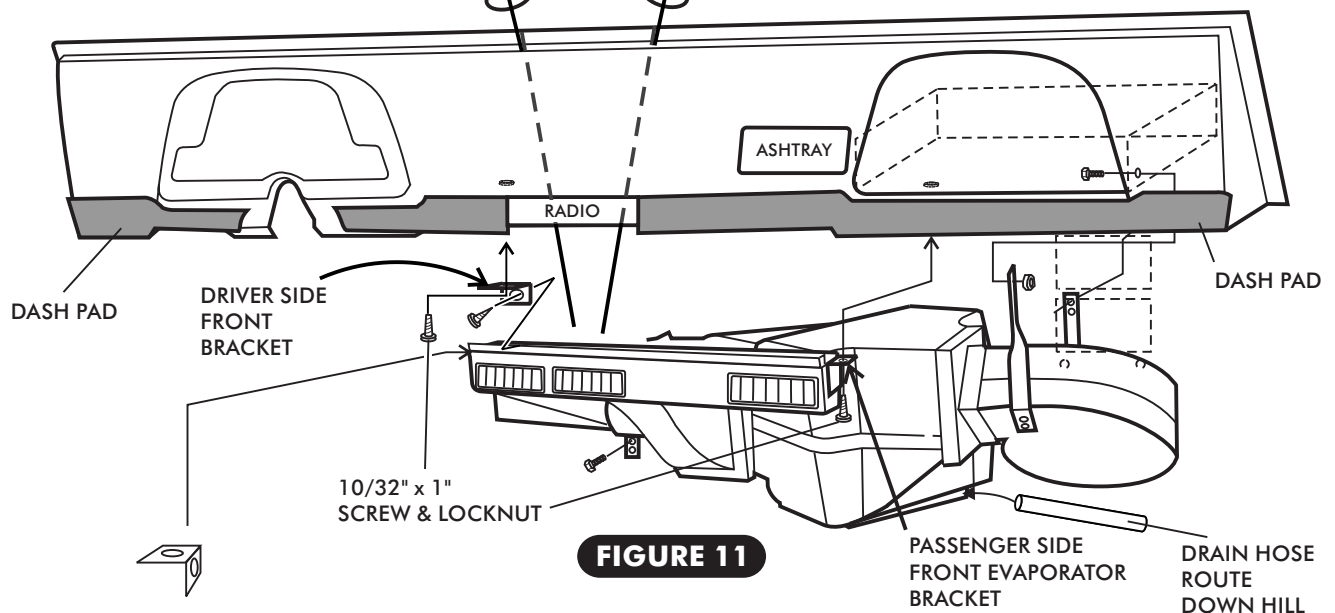

FIGURE 11
- ❑ **TRUCKS WITHOUT OEM DASH PADS** - REMOVE DASH PAD SPACER ON THE EVAPORATOR SEE FIGURE 11 & 11B, BELOW. THE NYLON SPACERS ON BOTH SIDES WILL NOT BE NEEDED.
- ❑ **TRUCKS WITH THE DASH PAD**- THE NYLON SPACERS ARE REQUIRED. DRILL A 5/32" HOLE UP THROUGH THE DASH USING THE HOLE IN THE BRACKET AS A GUIDE. INSTALL THE NYLON BUSHINGS BETWEEN THE DASH AND EVAPORATOR. PASSING THE BOLT THROUGH THE BRACKET, THE NYLON BUSHING, THE DASH. SECURE WITH LOCKNUT. SEE FIGURE 11, BELOW